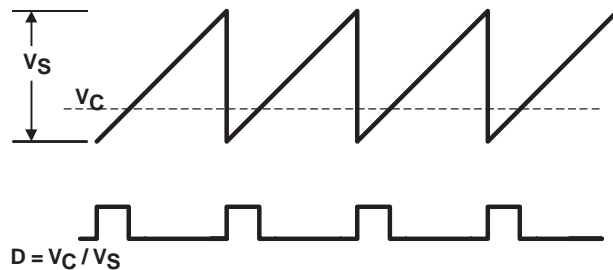

Figure 9
Voltage-mode buck-type converters are typically compensated using Type III networks. Since the TPS4005x uses voltage feedforward control, the gain of the PWM modulator with voltage feedforward circuit must be included. The modulator gain is described in Figure 9, with  $V_{IN}$  being the minimum input voltage required to cause the ramp excursion to cover the entire switching period as described in equation (19).